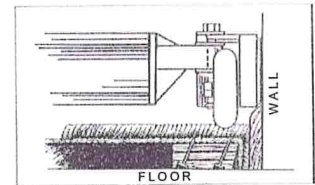

Figure 2
- C. Finally, attach the Speed Roller Tail Block and place it against the stretch-off wall. The wheels of the Speed Roller Tail Block bridge over most existing base shoes, protecting it from damage. (See figure 2.)
- C. The Speed Roller Tail Block bridges over most existing base shoes. (See figure 2.)